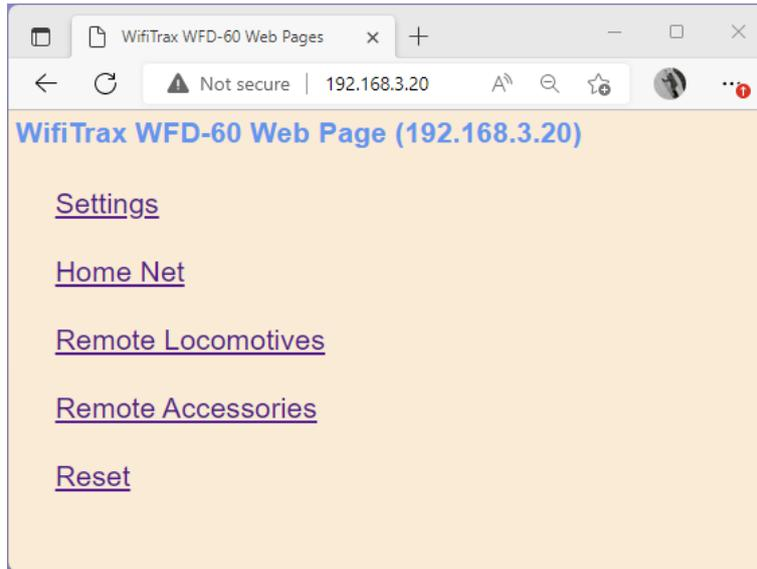

Figure 92 Use the IP Address to open the main menu web page
- f. Now open another tab in your browser and type the IP Address, 192 . 168 . 3 . 8 in this example, into the address bar to get the main menu web page of your module as Figure 92.